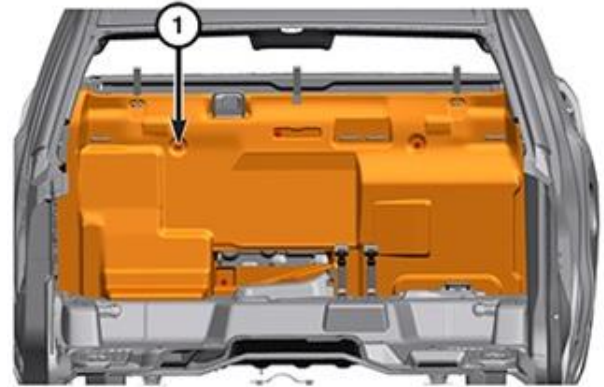

Figure 3 – Rear Cab Back Trim Panel
4. Remove the rear cab back trim panel. Refer to the detailed service procedures available in DealerCONNECT/ Service Library under: Service Info> **23 – Body / Interior / PANEL, Back Trim / Removal and Installation** (Figure 3).
12. Install the back panel trim. Refer to the detailed service procedures available in DealerCONNECT/ Service Library under: Service Info> **23 - Body/Interior/PANEL, Back Trim/Removal and Installation** (Figure 3).